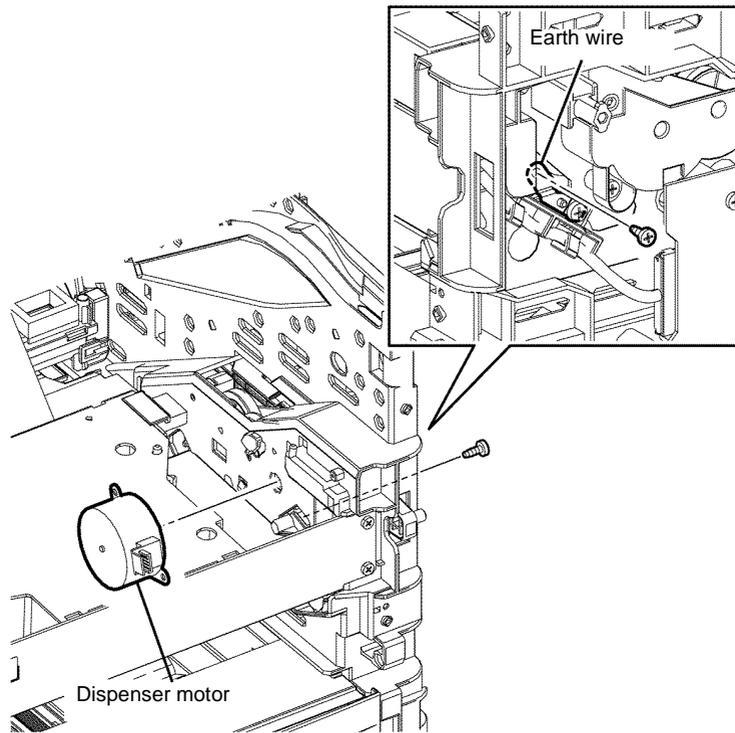

Figure 3 Dispenser motor installation
2. When installing the dispenser motor, secure the dispenser motor and earth wire together with the screw, Figure 3.